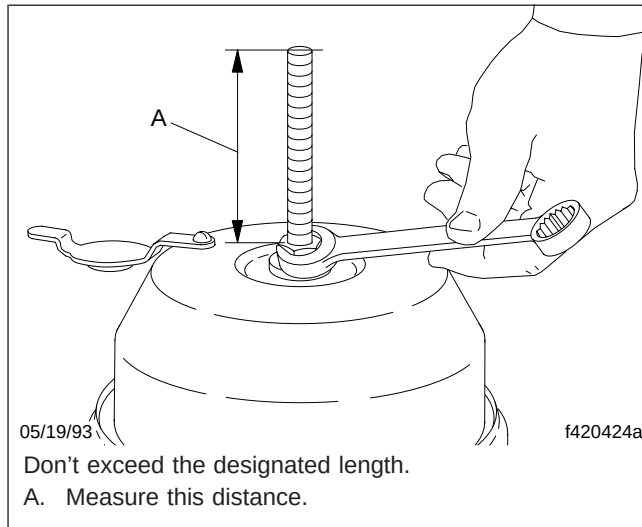

Fig. 6, Turning the Release Nut
7. Using a hand wrench (*don't use an impact wrench*), turn the release nut clockwise until the bolt extends above the nut 3.25 inches (80 mm) on type 2430 and 3030 chambers and 4 inches (100 mm) on type 3036 and 3636 chambers. See Fig. 6.